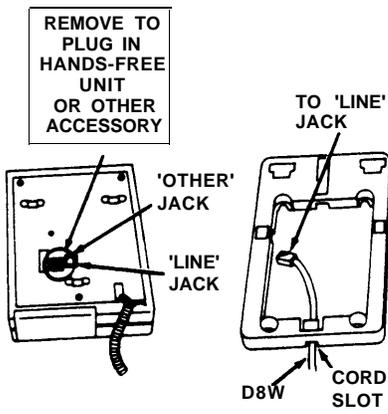

Figure 8
12. Thread one end of the D8W Modular Cord up through the cord slot in the wall mount, and plug the cord into the jack labeled "LINE" on the back of the voice terminal (see Figure 8).